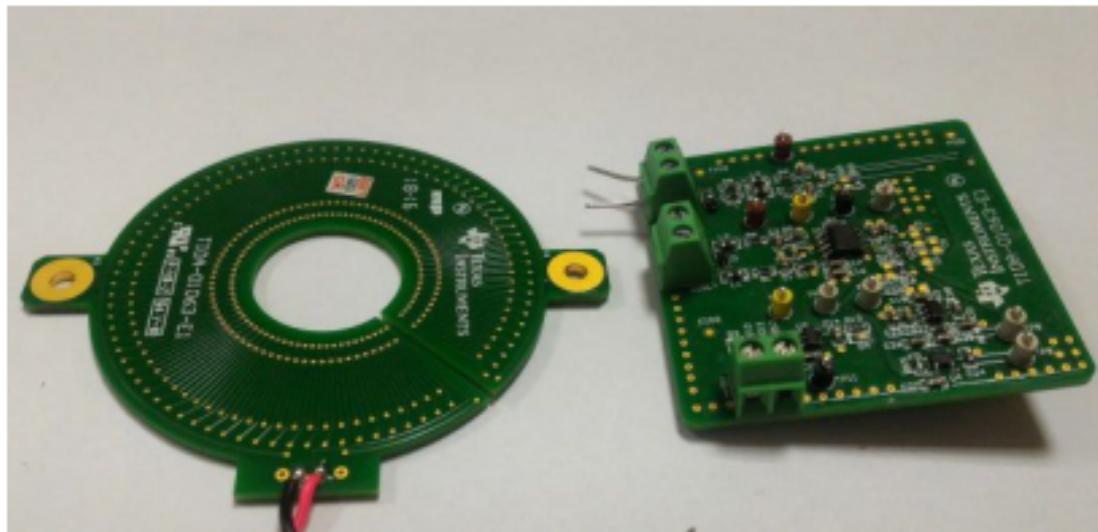

Figure 17: TIDA-01063 PCB Rogowski Coil Current Sensor.
- To obtain the measured value, the TIDA-01063 TI Design is easily interfaced to the ADS1256 EVM or ADS131E08 EVM. There are two PCBs as shown in figure 17. The circular PCB is the Rogowski sensor and the square PCB is the interface board for the sensor.